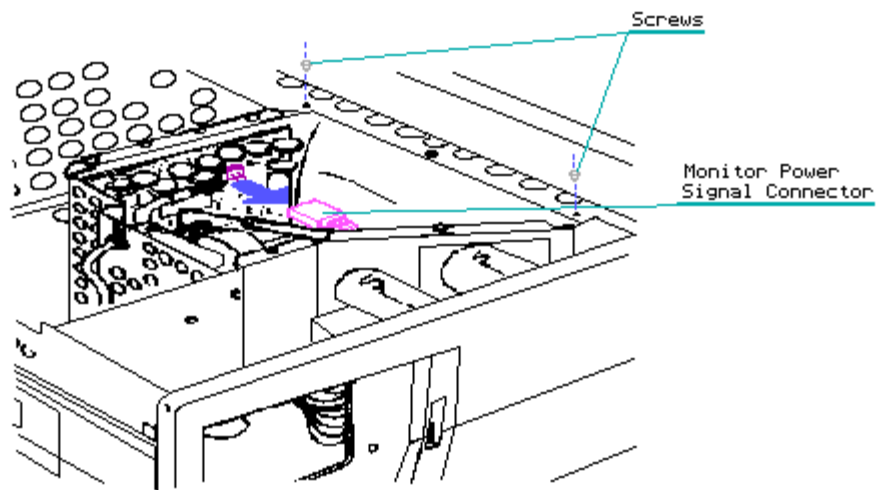

Figure 7.12-4. Removing the Screws that Secure the Monitor Enclosure to the Top Front of the Chassis
10. Remove the last two screws that secure the monitor enclosure to the top front of the chassis (Figure 7.12-4)
11. Disconnect the monitor power signal connector from the monitor sweep board (Figure 7.12-4)